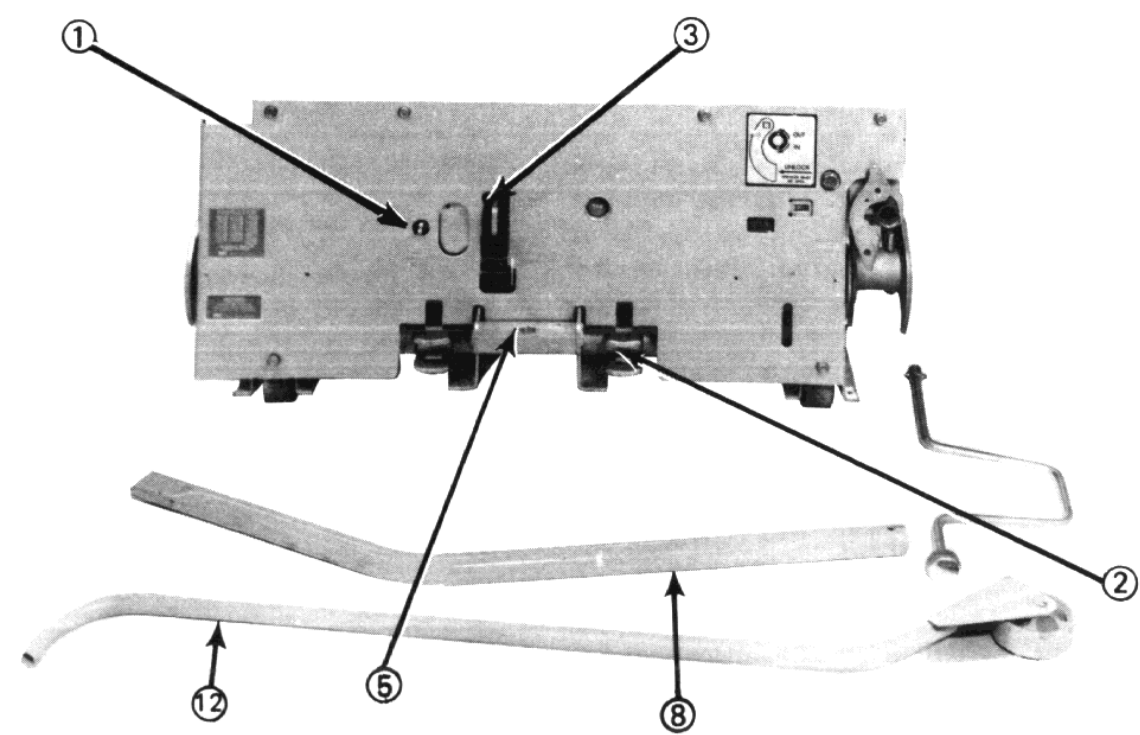

Fig. 3 — Front Circuit Breaker Panel & Accessories
Installing Circuit Breaker into Compartment (See Figs. 3 & 4)
Turn motor disconnect switch (1, Fig. 3) to "OFF" position.
Engage the fifth wheel (12, Fig. 3) with hole (5, Fig. 3); guide and push circuit breaker into compartment until stopped. (If closing springs were left in charged condition, they will automatically discharge.) Again engage racking crank and rotate clockwise until racking mechanism automatically stops at "DISCONNECT" position. (Breaker is now held captive in compartment.)
With the circuit breaker racked to "TEST" position, it should be checked for proper operation by operating all possible means of opening and closing, this includes control switches, relays, etc. Turn motor disconnect switch (1, Fig. 3) to "ON" position to charge the closing springs, and operate the breaker as required. (If motor disconnect switch (1, Fig. 3) is "ON", the springs will automatically charge when approaching "TEST" position.)
2. Fully opened breaker - With the breaker open, check that the opening arm (5) has rotated clockwise so that roller (6) relative to the slot is positioned approximately as shown.
3. Fully closed breaker (see Fig. 3). Charge the closing springs and turn the motor switch (1) off. Close the breaker. Engage manual charge handle (8) with charging lever (3). During the initial portion of the downward stroke of the handle check to see which direction the closing springs guides (2) move. If the spring guides start to move out then the breaker did not fully close. If the spring guide begins to move in and with additional pumping moves in until the mechanism can be heard to "snap in", then the breaker did not fully close originally. Excess contact pressure or friction can cause this condition and if it cannot be relieved than the factory should be consulted.